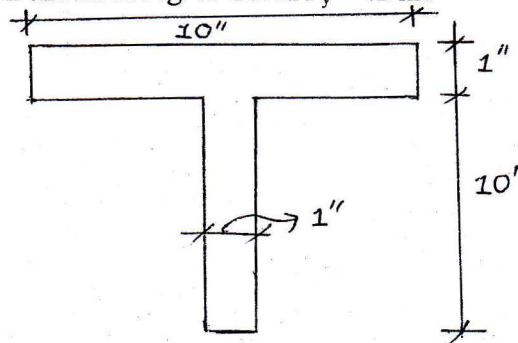

Fig: 1
- (c) Compute the yield moment and plastic moment capacities and shape factor for major axis bending of the section shown in Fig. 1. Given $F_y = 42$ ksi 7